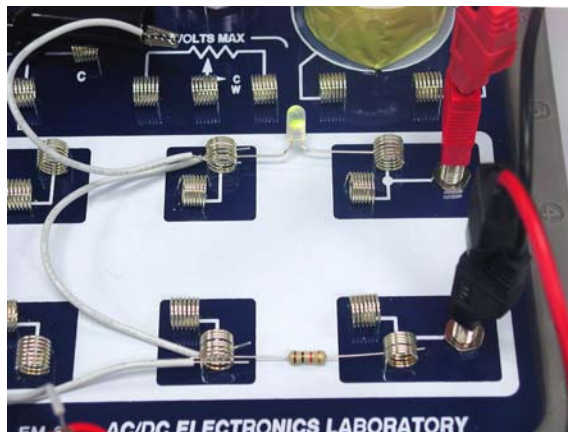

Figure 5: LED Setup
4. Find the red, yellow, green, and bicolor LEDs. The bicolor is actually clear when unpowered. It is the one shown in Figure 5. If the wires have not already been bent so they will bridge between the two springs as in Figure 5, do so now. Be careful not to break the wires. *When you are done, leave them bent, since repeatedly bending them will break them.*